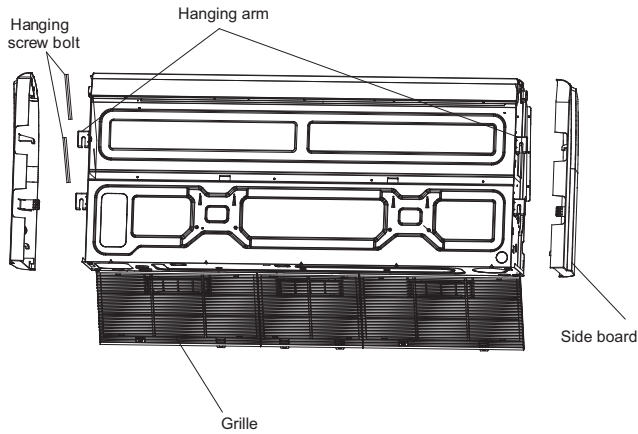

Fig. 14 — Remove the side boards and the grille
2. Remove the side boards and the grille (see Fig. 14).